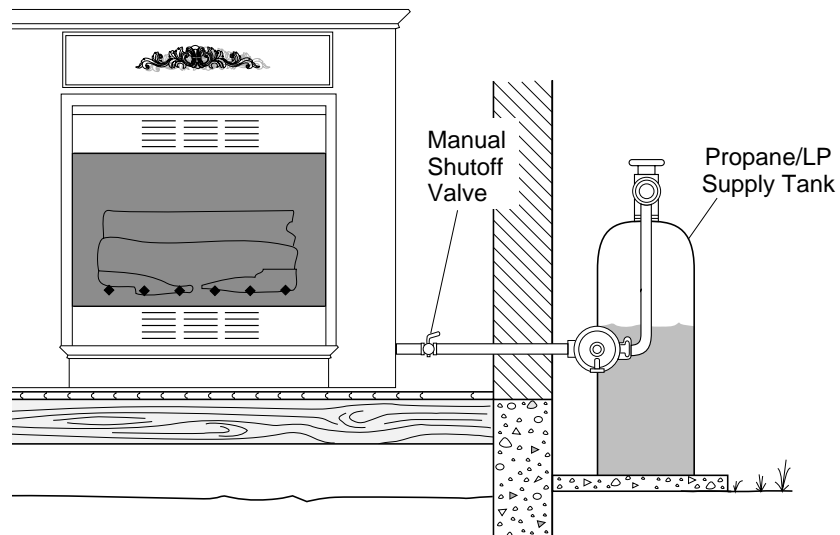

Figure 25 - Checking Gas Joints (Shown with Optional Mantel)
3. Check all joints from propane/LP supply tank to manual shutoff valve (see Figure 25). Apply mixture of liquid soap and water to gas joints. Bubbles forming show a leak.